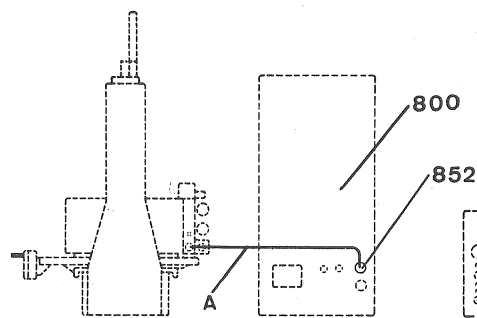

Fig 17
0. Connect the control cable (A) of the machine to its socket (852) on the generator (800) (fig. 17).